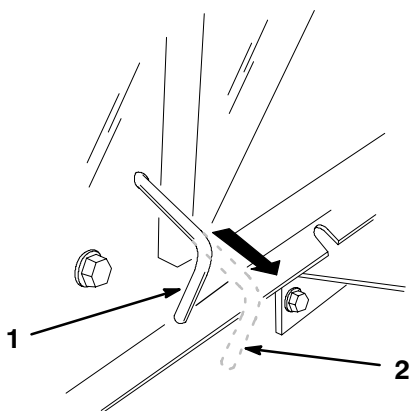

Figure 13
3. Pull the drive control, located at the rear of the machine, out to the “PUSH” position and release the parking brake. This disengages the drive system and allows the wheels to turn freely (Fig. 13).
1. Set the parking brake and push the drive control in to the “OPERATE” position. This engages the drive system (Fig. 13).